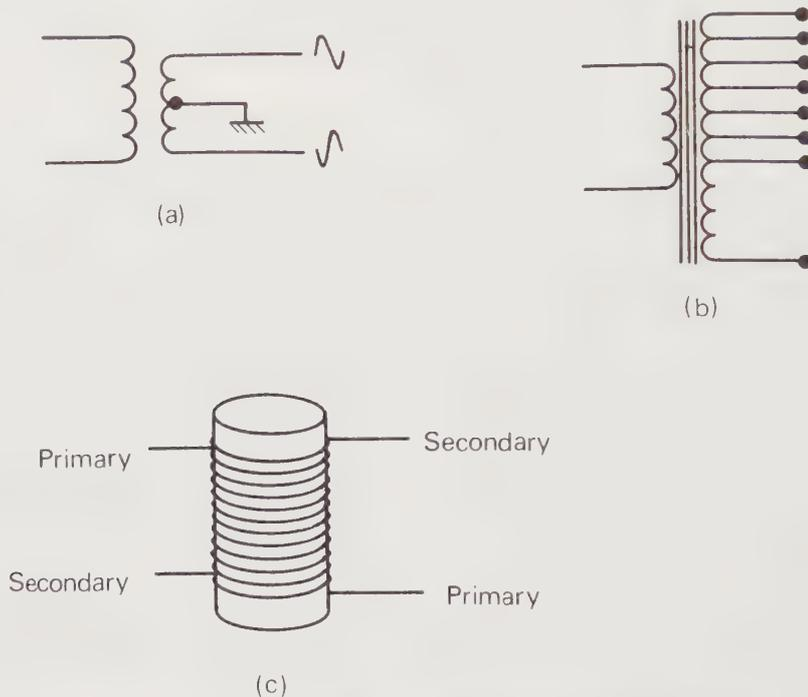

Fig. 8.3 Types of TRANSFORMER WINDINGS.
A *tapping* is a connection made to a selected part of the wire of a winding so that different numbers of turns may be selected for different jobs. Mains transformers, for example, will have several tapings on the primary winding so as to be able to handle different values of mains voltage. Multiple-tapped secondary windings — Fig. 8.3(b) — can also be used to provide several different ratios from one transformer, so that different secondary voltages or matching ratios can be obtained.
A centre-tapped secondary winding — Fig. 8.3(a) — is a good way of obtaining phase-inverted signals for audio amplification or for rectification. This principle can be extended to the auto-transformer, which is a single-tapped winding equivalent to the use of a double-wound transformer with one end of the primary connected to one end of the secondary. The ratio of input/output voltages and currents still follows the normal
*Bifilar* winding — Fig. 8.3(c) — is a method of providing very close coupling between primary and secondary windings, particularly useful in audio transformers. In this method of construction, the primary and the secondary turns are wound together, rather than in separate layers.